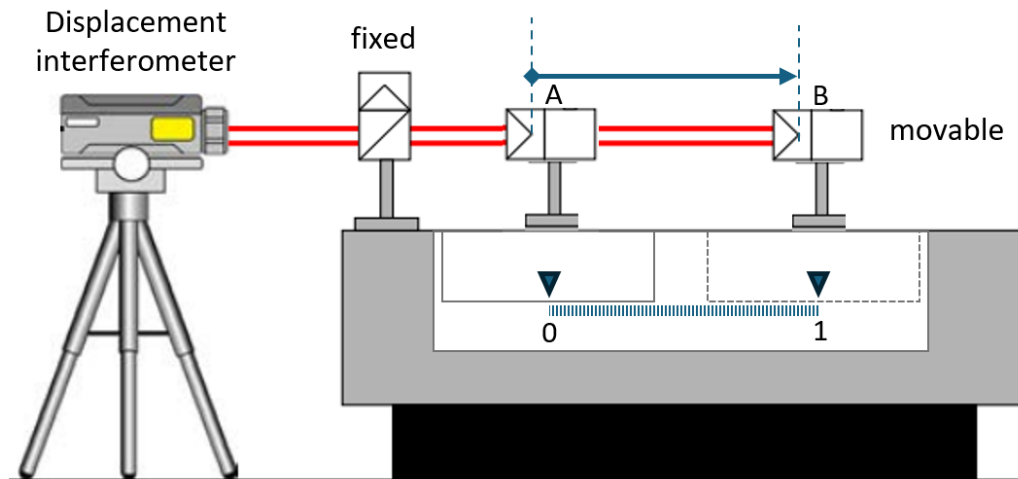

Figure Q3.
- e) The He-Ne displacement interferometer in Figure Q3 (page 6) is replaced by a frequency scanning interferometer based on a tunable laser with a tuning range from 1260nm to 1360nm and a sweep rate of 100,000 scans per second (assume linear scans, sawtooth profile). Show that the frequency of the interference signal when the target distance is 1m from the datum will be greater than ~10 GHz, requiring expensive data acquisition boards with high sampling rates.